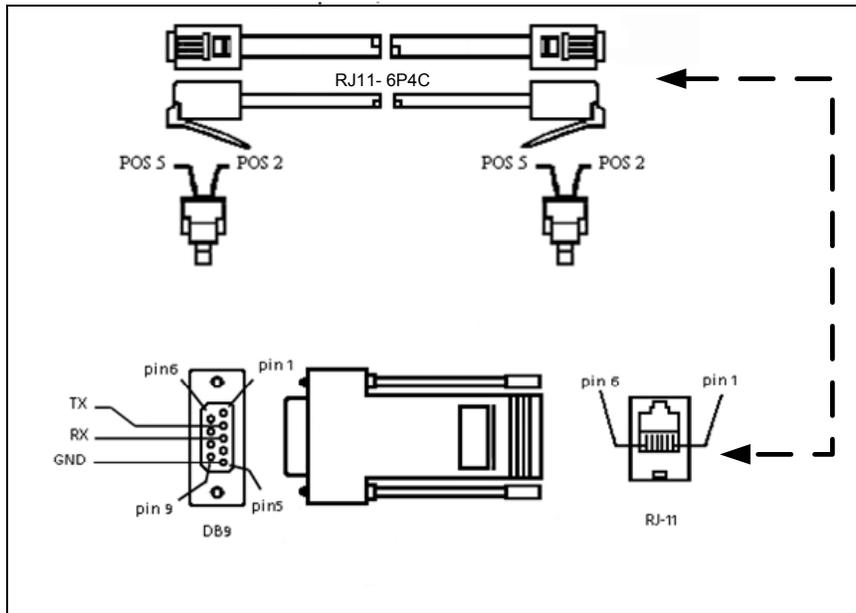

FIG. 3
3. Connect the host computer RS232 (user supplied) to the DB9 connector of the RJ-11 to DB9 adaptor. Refer to **Figure 3**.
4. Turn the main power On/Off (1/0) switch, located on the back of the unit, to the on (1) position.